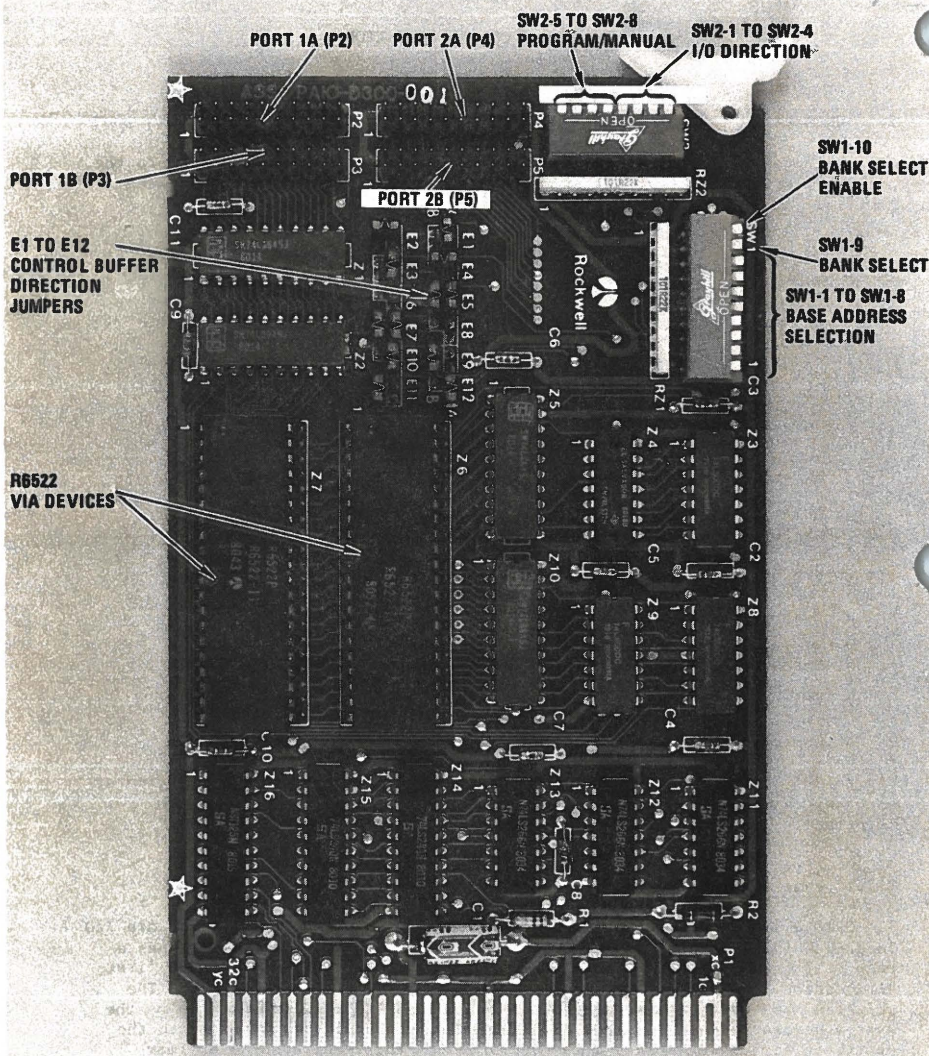

Figure 2-1. GPIO & Timer Module Detail
Figure 2-1 identifies the detail on the GPIO & Timer module. The function of each switch, jumper, or connector is identified in Table 2-1 along with reference to the section and table that describes its use.
- d. Connect the cables from the external equipment to I/O connectors on the GPIO & Timer module as appropriate (see Figure 2-1).